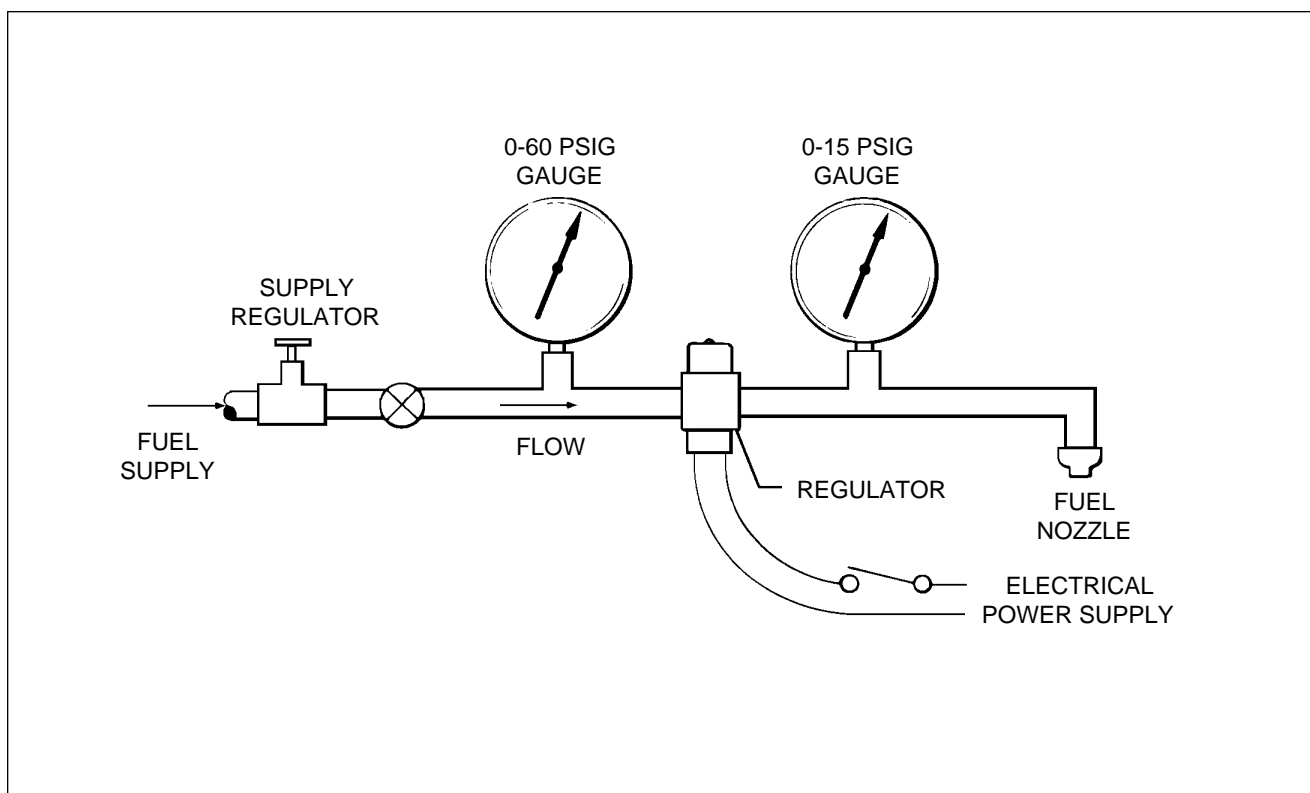

Figure 21-12. Test Setup for Fuel Regulator and Shutoff Valve
1. Install the regulator in a test stand similar to that shown in Figure 21-12.